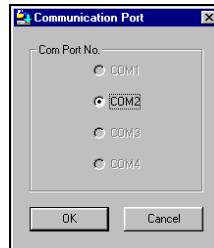

Figure 19 The Com Option box
- From the Options menu choose Com Port. The Com Port box appears. See Figure 19.